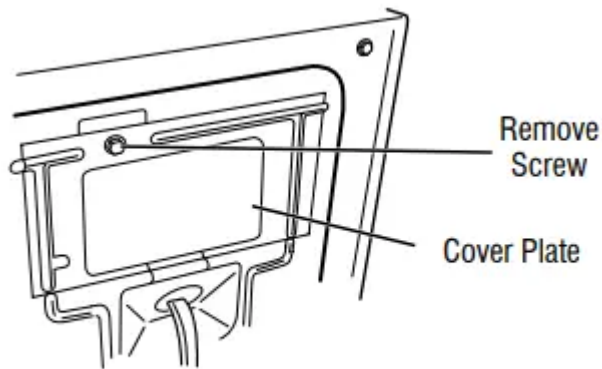

Figure 3 - Remove the cover plate
2. Remove the cover plate from the top right corner of the back of the dryer. See Figure 3.